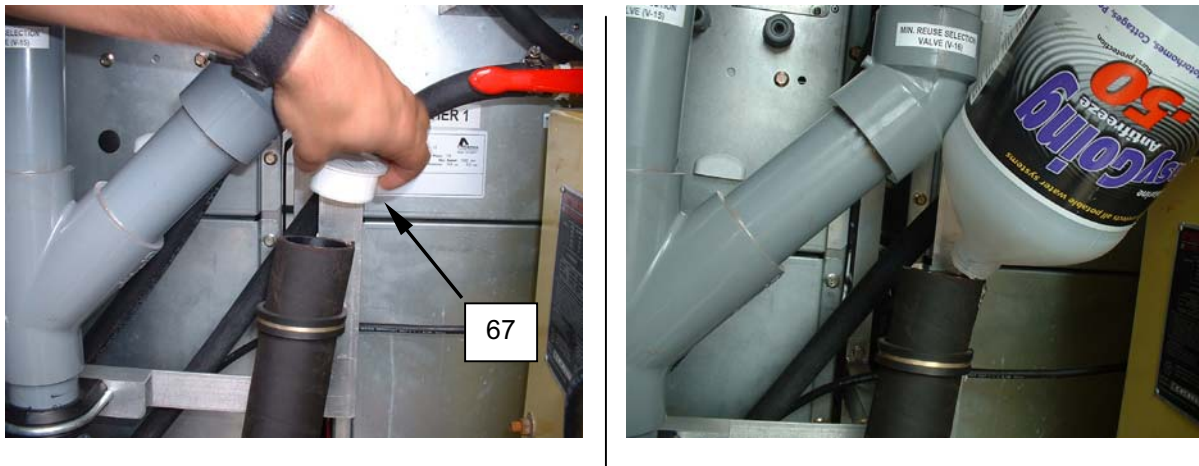

Figure 34. Add Antifreeze - Waste Water Tank.
1. Remove stand pipe cover (Figure 34, Item 67) on waste water tank.
3. Install stand pipe cover (Figure 34, Item 67).